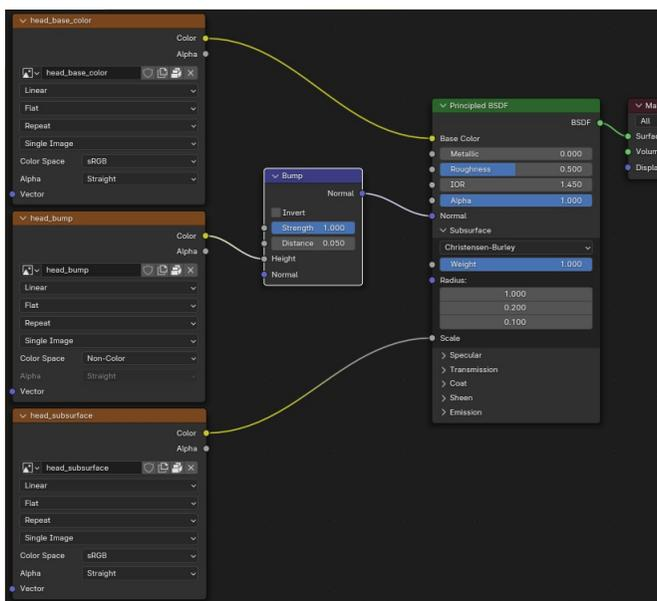

Figure 8-1 Material Nodes for head
3. For this exercise you will need materials set up as in Figure 8-1 for the head and body, and one without the subsurface texture, bump texture and normal input for the eyes. You will probably have a similar setup from before called skin and eyes so modify the skin one and save it as head then use the New Material button, with the overlapping squares icon to the right of the Name field, to duplicate that and rename the duplicate as body and use eyes as it is.